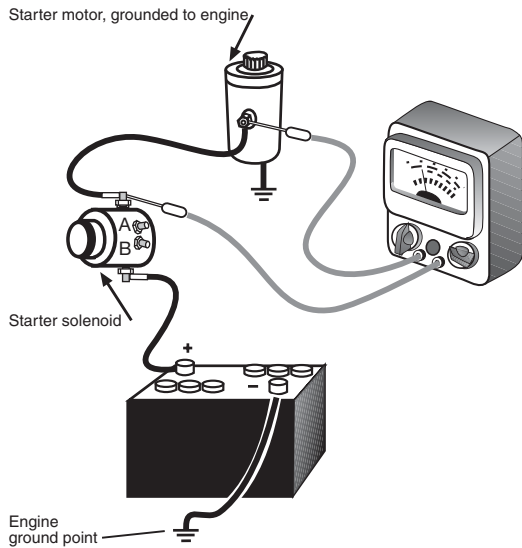

Figure 6-11. Starter circuit voltage-drop test—Step 3.
*Step 3.* If all's well so far, the next step is to check for a voltage drop between the solenoid and the starter motor. Connect the voltmeter as shown in Figure 6-11. Crank the engine and watch your voltmeter. The reading should not exceed 0.2 volt.